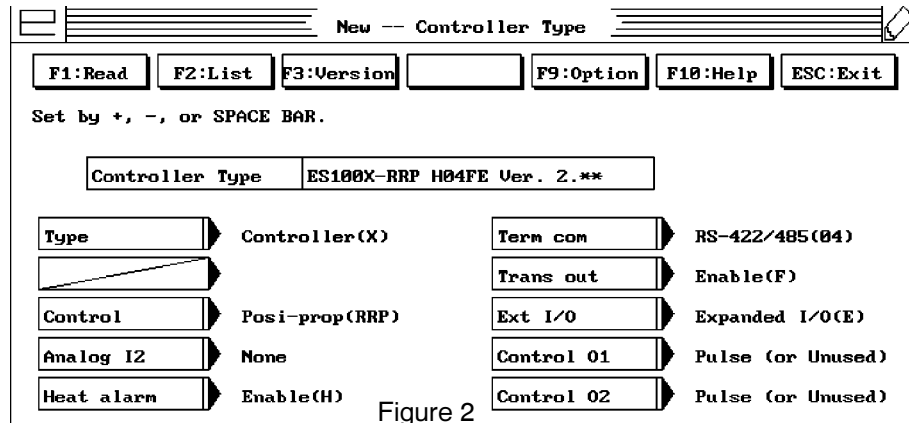

Figure 2
- c. Double-click on the **ENT: OK** button. The "New – Controller Type" menu appears (Figure 2).